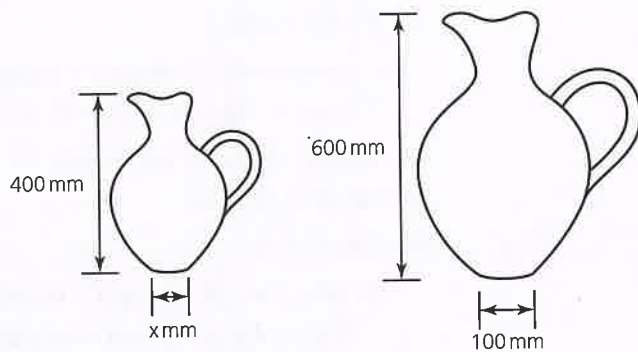

Figure 2.3 Scaled jug
Scaling ratios can be represented as fractions in mathematical calculations. For example, the jug shown in Figure 2.3 has been scaled. The base of the jug is circular. To calculate the diameter x of the scaled down jug from the information provided, the scaling ratio needs to be calculated in order for the radius to be calculated.
- 4** If the large jug in Figure 2.3 is subjected to a scaling ratio of 2 : 3, what will be the height of the new jug?
- 5** Calculate the volume scaling ratio for the jugs shown in Figure 2.3.